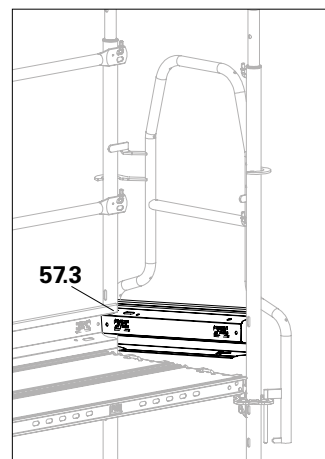

Fig. A3.10
5. Lower the toe board onto the deck. → The toe board is installed. (Fig. A3.10)